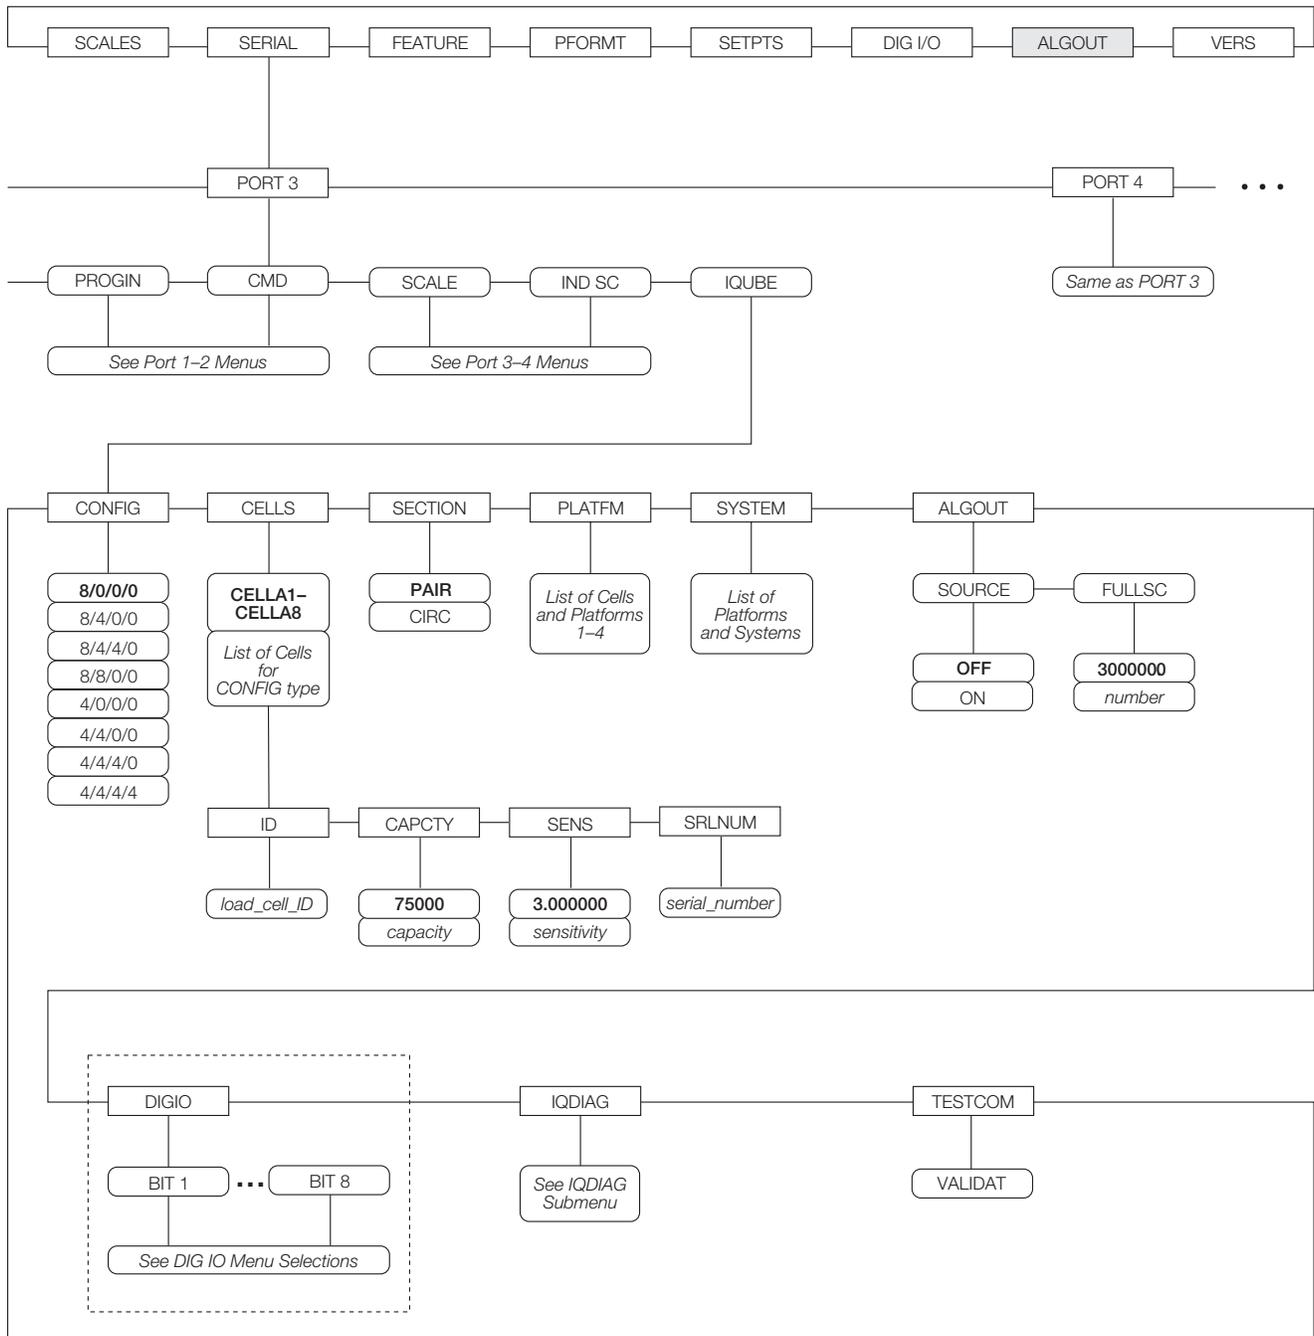

Figure 3-1. SERIAL Menu, iQUBE Submenu
1. Use the SERIAL menu to set up the following parameters. See Figure 3-1 on page 19 for a diagram of this portion of the 920i SERIAL menu. See also Table 3-1 on page 20.